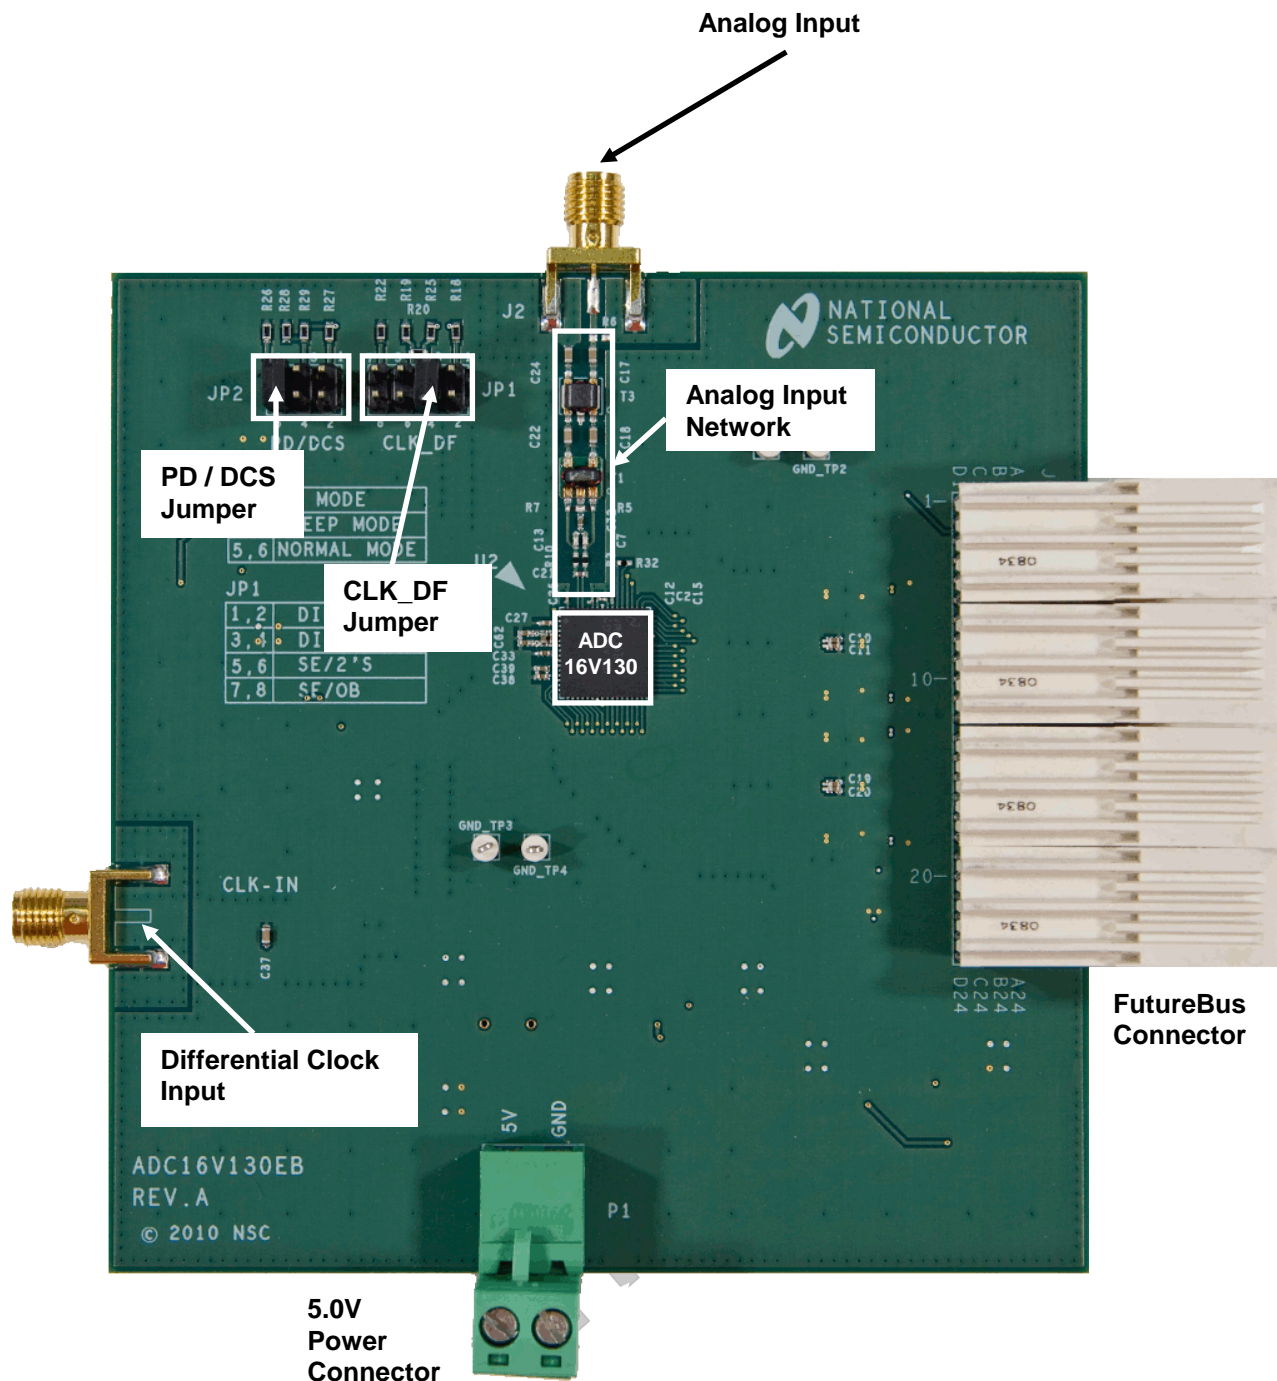
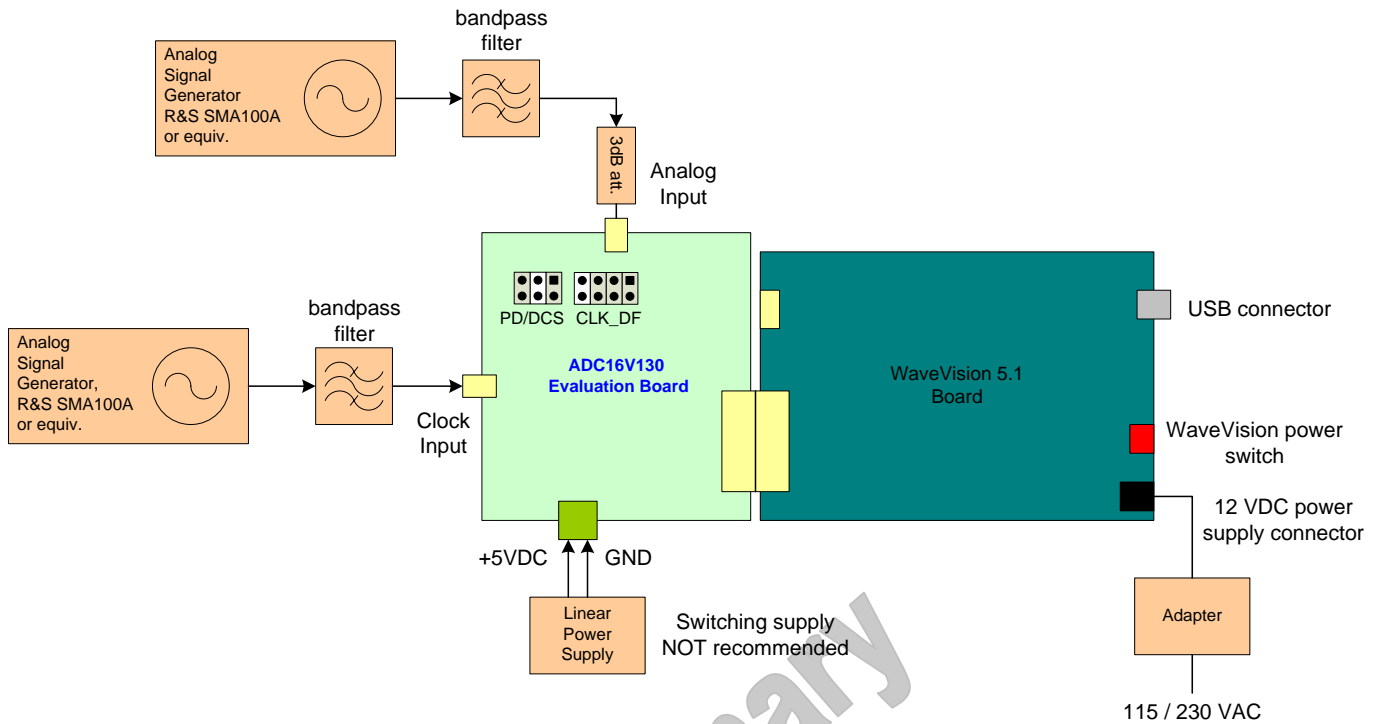

Figure 1a. ADC16V130 (Front) Component, Connector and Jumper Locations
Figure 2. Connection Diagram for ADC16V130EB and WaveVision 5.1 Data Capture Hardware
in the WaveVision 5.1 kit. The connection diagram is shown in Figure 2.
The ADC16V130 board jumpers should be configured as follows. Please refer to Figures 1a and 1b for the exact jumper locations.
2. Connect the ADC16V130 reference board to the WaveVision 5.1 board through the FutureBus connector as shown in Figure 2. The ADC16V130 evaluation board should not be powered up, as the WaveVision hardware does not support hot-swapping of boards.
3. Connect a 5.0V power supply capable of supplying up to 500mA to the green power connector which is located along the bottom edge of the ADC16V130 board. This is shown in Figure 2. Ensure that the polarity of the wires going to the green power connector match the “+5V” and “GND” labels in Figure 2 above. Turn on the 5V supply.
4. Connect the signal source through the “INPUT” SMA connector and the clock source through the “CLK_DIFF” SMA connector as shown in Figure 1a and Figure 2. Recommended signal generators are the HP8644B (HP/Agilent) or the SMA100A (Rohde & Schwarz). A bandpass filter between the signal generator outputs and the ADC16V130EB SMA connectors is required to measure the true performance of the ADC16V130. A 3 dB attenuator is also recommended between the Analog Input SMA connector and bandpass filter. See Figure 2.